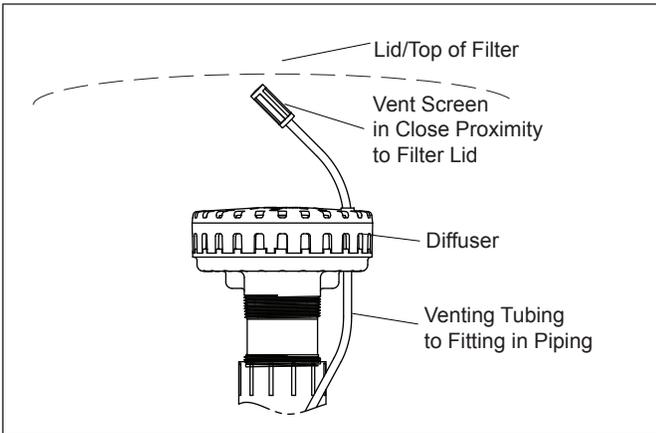

Figure 2. Automatic Vent Positioning
2. Before installing the lid, ensure that the air vent screen at the top of the air vent tubing is properly located above the diffuser such that it will be close to the underside of the lid when the lid is installed. See Figure 2.